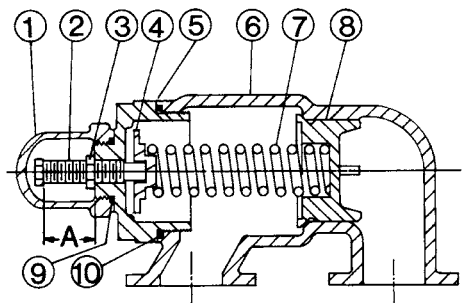

FIGURE 10
Series 34 and 434 jacketed pumps may be furnished with a relief valve head and a plain or jacketed relief valve as illustrated in Figures 10 and 11.
2. Measure and record length of extension of adjusting screw. Refer to "A" on Figures 10 and 11.